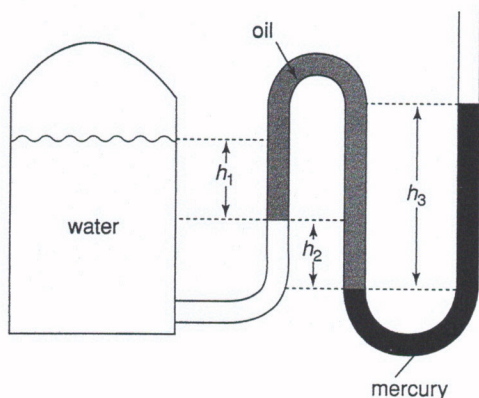

Figure 4.68
17. The pressure in the vapor space of a tank (Figure 4.68) is measured with a mercury manometer that is open to air. The manometer is isolated from the water in the tank by an intermediate section of piping in which oil is trapped.
What is the pressure in the head space above the water for the heights and fluids shown in Figure 4.68?